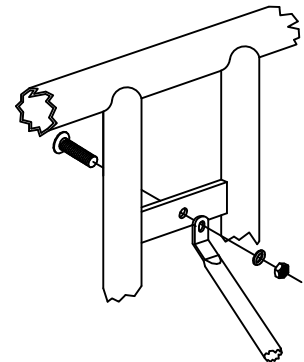

FIG. 2
Attach one end of each (D1) brace to each leg, see FIG. 2, using, per each brace, one (E), two (G), one (I) and one (H).